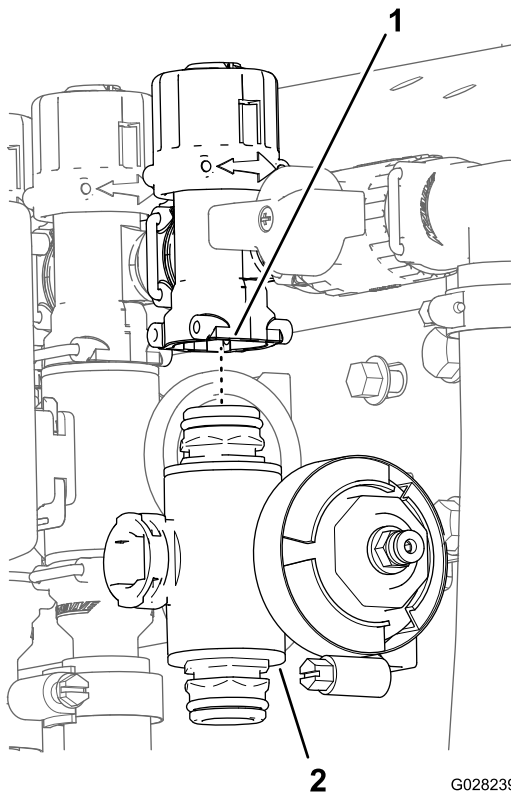

Figure 118
3. For the left or right boom section valves, remove the flanged-head bolts and flanged locknuts that secure the section valve(s) to the valve mount and remove the valve manifold(s) from the machine; for the center section valve, remove the section valve manifold from the machine (Figure 118).